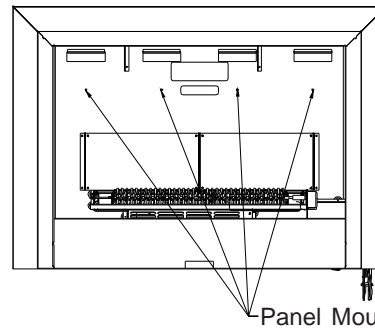

Figure 7
13. Fix the unit in place by inserting 2 screws through 2 of the 4 available back panel holes, and into the wall studs. If studs are unattainable please use wall anchors. (Figure 7).